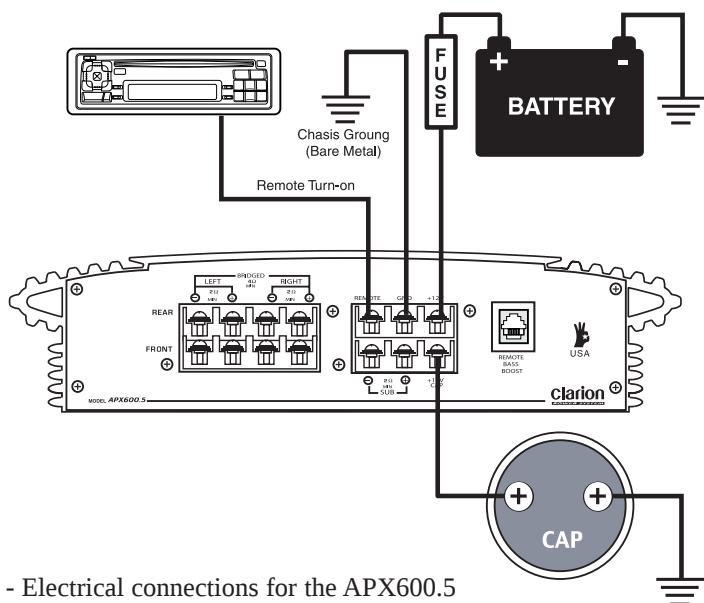

Figure 9 - Electrical connections for the APX600.5
6. Refer to Figure 9 when making electrical connections. Connect the amplifier's positive (+) lead via a fuse directly to the positive (+) terminal on the battery. Do not connect this wire to the car's fuse panel. Use red-insulated 8-gauge (or larger) wire for the amplifier's positive (+) power lead and the same-gauge black insulated wire for the ground.